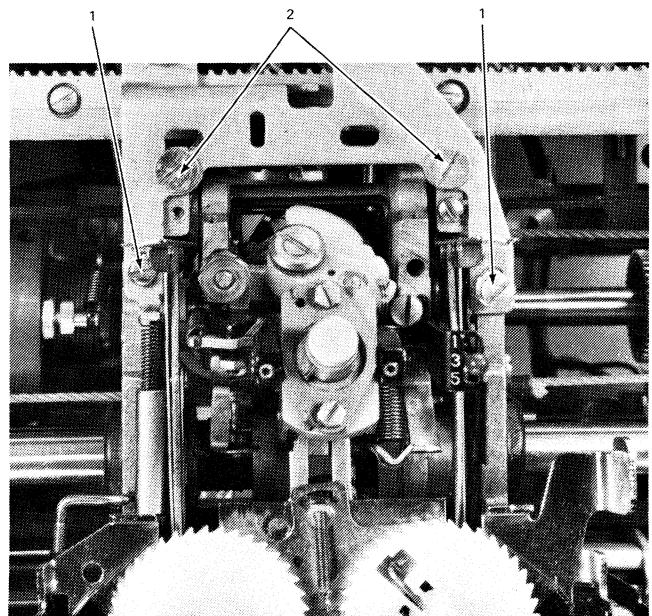

Figure 4-4. Escapement Bracket Removal
- Remove the two card-holder screws (No. 1, Figure 4-4).
- Remove the two escapement bracket screws (No. 2, Figure 4-4).